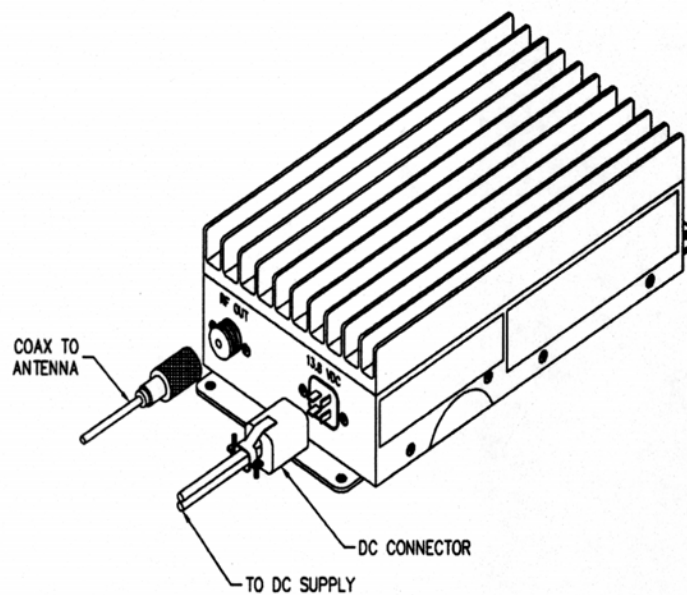

Figure 4. Antenna connection
3. Connect the antenna to the “**RF OUT**” terminal with a 50 $\Omega$  coaxial cable and a PL-259 UHF male connector according to figure 4.